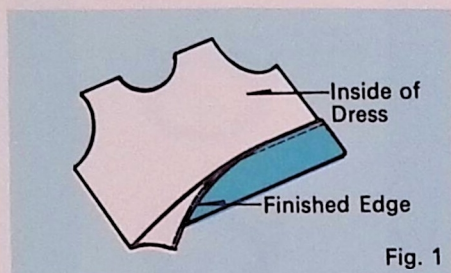

Fig. 1
1. Finish edge of hem anyway you desire. Turn up hem appropriate width. (Fig. 1)